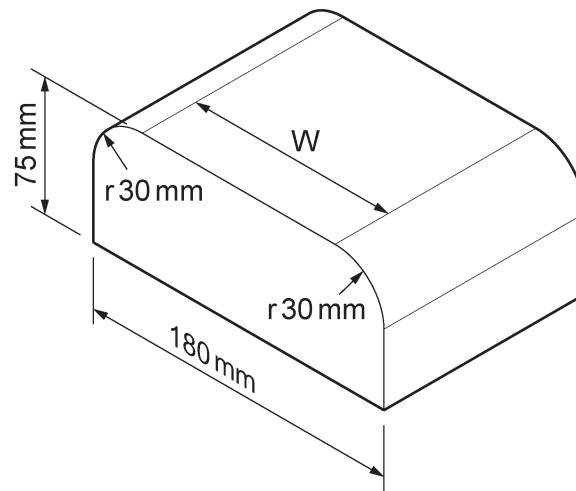
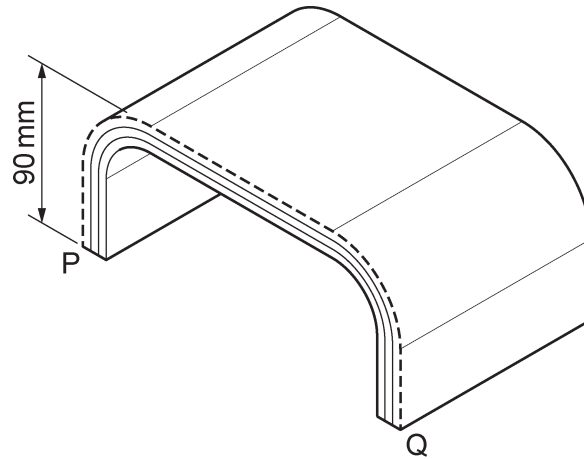

Fig. 2.2
Fig. 2.3
Fig. 2.2 shows a former, made from a rectangular block of MDF measuring 180 mm wide and 75 mm thick.
- (i) Calculate the width W of the top face of the former in **Fig. 2.2**. Give your answer in mm. Show your working.
- (ii) The former in **Fig. 2.2** is used to construct the laminated wooden part shown in **Fig. 2.3**.
Calculate the outside length from corner P to corner Q on the laminated wooden part, indicated by the dotted line in **Fig. 2.3**. Give your answer in mm. Show your working.
- (iii) The former in **Fig. 2.2** has vertical sides.
- (iv) The former in **Fig. 2.2** could be manufactured from an alternative material to MDF.